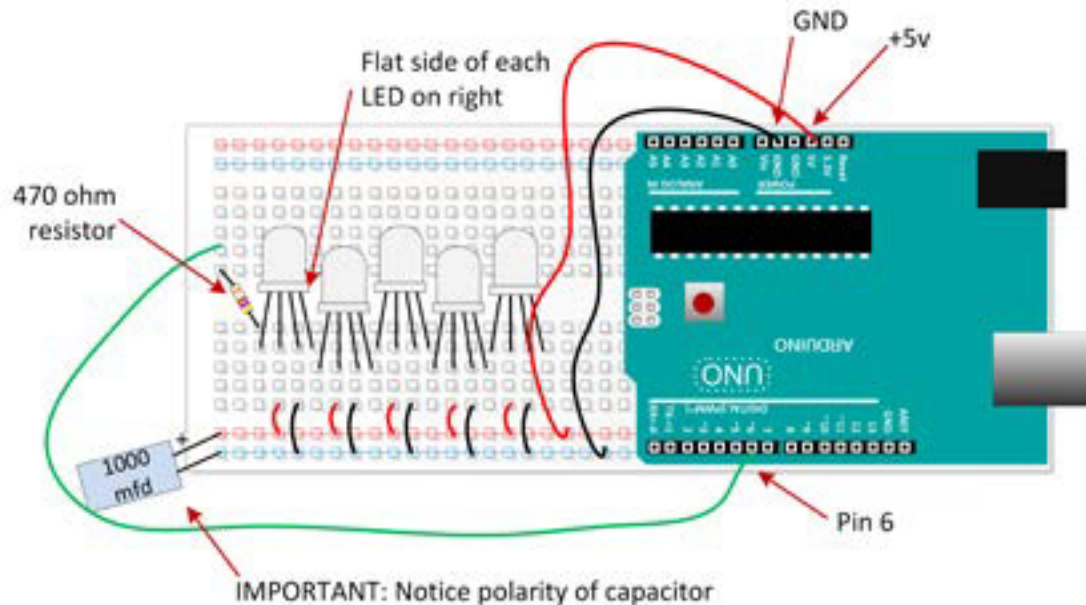

Figure HT8-2. Schematic and pictorial of wiring for NeoPixel and Arduino™
2. Wire the parts as shown in Figure HT8-2.
Important	Be certain the flat side of each NeoPixel is oriented the same as in Figure HT8-2, and make sure that the positive and negative leads of the capacitor are not reversed.